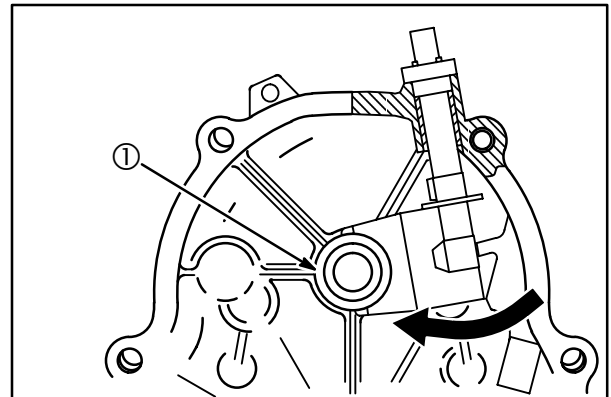

Fig. 8
2. Rotate governor shaft so that paddle rests against camshaft bearing support, **Fig. 8**.